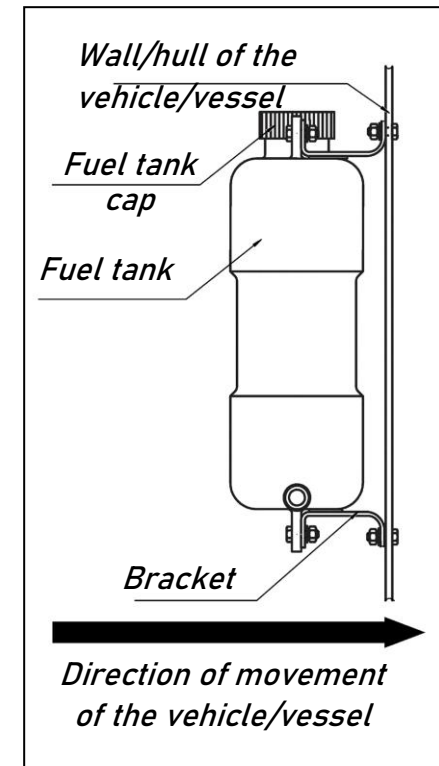

Figure 3 – Installation of the fuel tank
Consider convenience of fuelling, when installing the fuel tank (Fig.3). Install the fuel tank in such a way that the amount of fuel and its potential leaks from the inlet, fuel suction nozzle or connections can be visually controlled.
Fuel tank must be installed with its wide side perpendicular to the direction of the movement of the vessel (see Fig. 3).
1. Assemble the shut off valve (5) and both fittings (7) together. Put copper O-rings (6) at the fitting thread side
2. Put rubber sleeves (8) with clamps (4) to the both fittings.
4. Mount fuel tank or fuel pick up tube (included in the heater installation kit) according Fig.2 or Fig.3
5. Fasten the fuel pump (3) to the surface with a clamp. Don't overtake 1m maximum distance from the fuel tank (1).
6. Connect fuel pick up tube/fuel tank to the shut-off valve (5) using 1m copper pipe (9) piece and sleeves (8). Push copper pipe (9) into the sleeve (8) as deep as possible to avoid air bubbles occurrence during operation. Do not cut the pipe. Fasten copper fuel pipe (9) to surface with P-type clamps every 50-80 centimetres.
7. Connect 4m copper pipe piece (9) to the fuel pump outgoing side sleeve (8).
9. Connect fuel pump wiring harness to the fuel pump socket. Check if the shut off valve (5) is open. Start the heater several times until the fuel removes air from the fuel pipe.
10. Put rubber sleeve (8) with clamps (4) to the heater (2) fuel intake pipe and connect the end of 4m copper pipe (9) to the heater (2). Push copper pipe into the sleeve (8) as deep as possible to avoid air bubbles occurrence during operation
11. Retighten all clamps (4). Start the heater (2) and check fuel lines for leakage during operation.